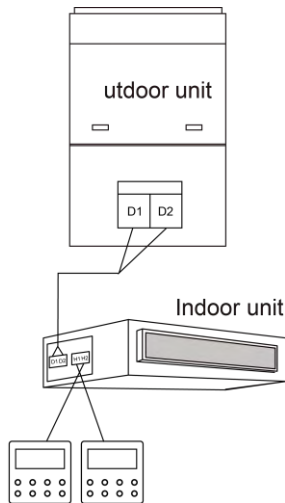

Fig. 5.7 Two wired controllers
- (3) When two wired controllers control multiple indoor units, wired controller can be connected to any one indoor unit, while the connected indoor unit should be the same series indoor unit. The addresses of those two wired controllers should be different. Please refer to 5.2.3 parameter setting. The total quantity of indoor unit controlled by wired controller can't be more than 16 sets and all connected indoor units must be within the same indoor unit network. Wire controller must set quantity of group control indoor units. Please refer to 5.2.3 Parameters Setting.
- (4) When one (or two) wired controller(s) control(s) multiple indoor units at the same time, the controlled indoor unit's setting should be the same.
- (5) Wiring of wired controller and indoor unit network must be according to one of the four wiring method as shown in fig 5.6-5.9. As for the connection method shown in fig 5.7 and 5.9, there should be only one master wired controller (address is 01) and one slave wired controller (address 02). The quantity of wired controller can't exceed two.
- ① Common Multi VRF Units;
- ② Fresh Air Units;
- ③ Double-heat Sources Units;
- ④ Combined Units;